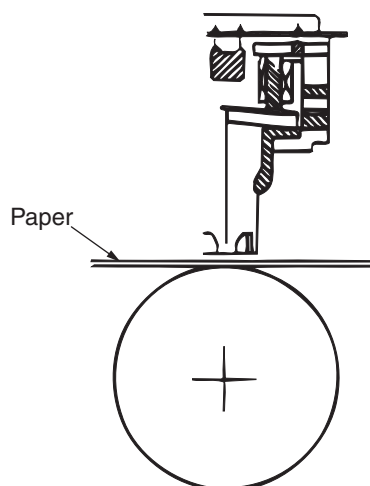

Figure 2-3
2.2.1 The printhead mechanism and operation (See Figure 2-3.)